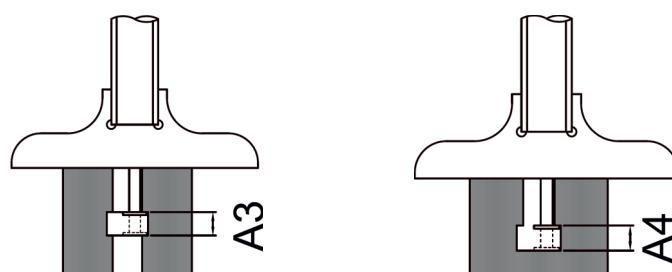

Fig. 3
- » For a disc-shaped contact point measuring the width of grooves inside a hole, gently pull the millimeter scale so the inner measuring surface of the contact point touches the top surface of the groove. Set the zero value by holding the "SET" button. Then place the outer measuring surface of the contact point on the bottom surface of the groove and measure depths A3 and A4 (Fig. 3). The thickness of the disc-shaped contact point is x, and the values of A3 and A4 equal the readings plus x.